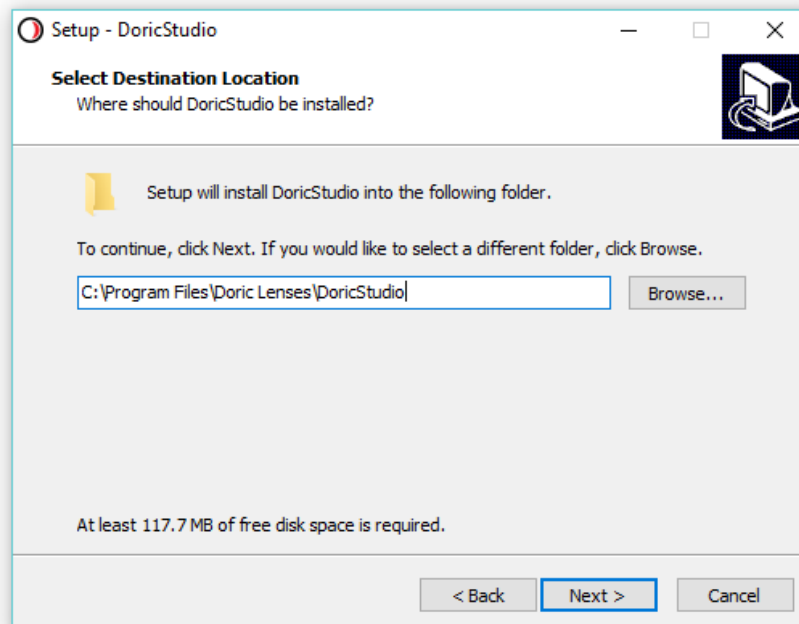

Figure 3.2: Select Destination Location
5. **Choose** where to install the software (Fig. 3.2) and click **Next**.